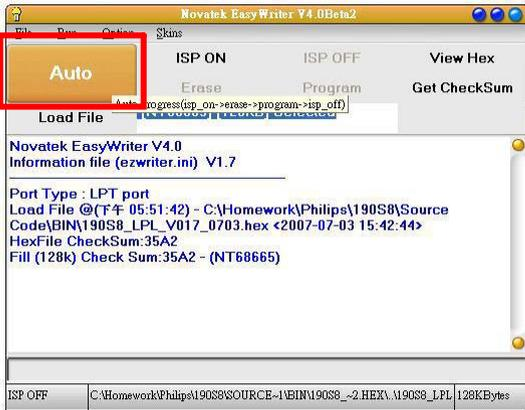

Fig.10
6. Press AUTO running program , the firmware be updated as shown in Fig. 10.
- 3). Press "MENU" button, wait until the OSD menu come on the Screen of the monitor.as shown in Fig.10